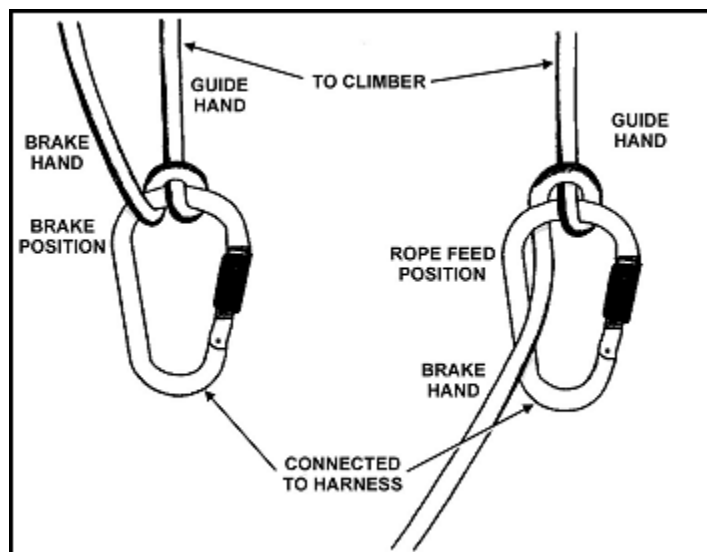

Figure 6-25. Munter hitch.
(1) **Munter Hitch.** The Munter hitch is an excellent mechanical belay technique and requires only a rope and a carabiner (Figure 6-25). The Munter is actually a two-way friction hitch. The Munter hitch will flip back and forth through the carabiner as the belayer switches from giving slack to taking up rope. The carabiner must be large enough, and of the proper design, to allow this function. The locking pear-shaped carabiner, or pearabiner, is designed for the Munter hitch.